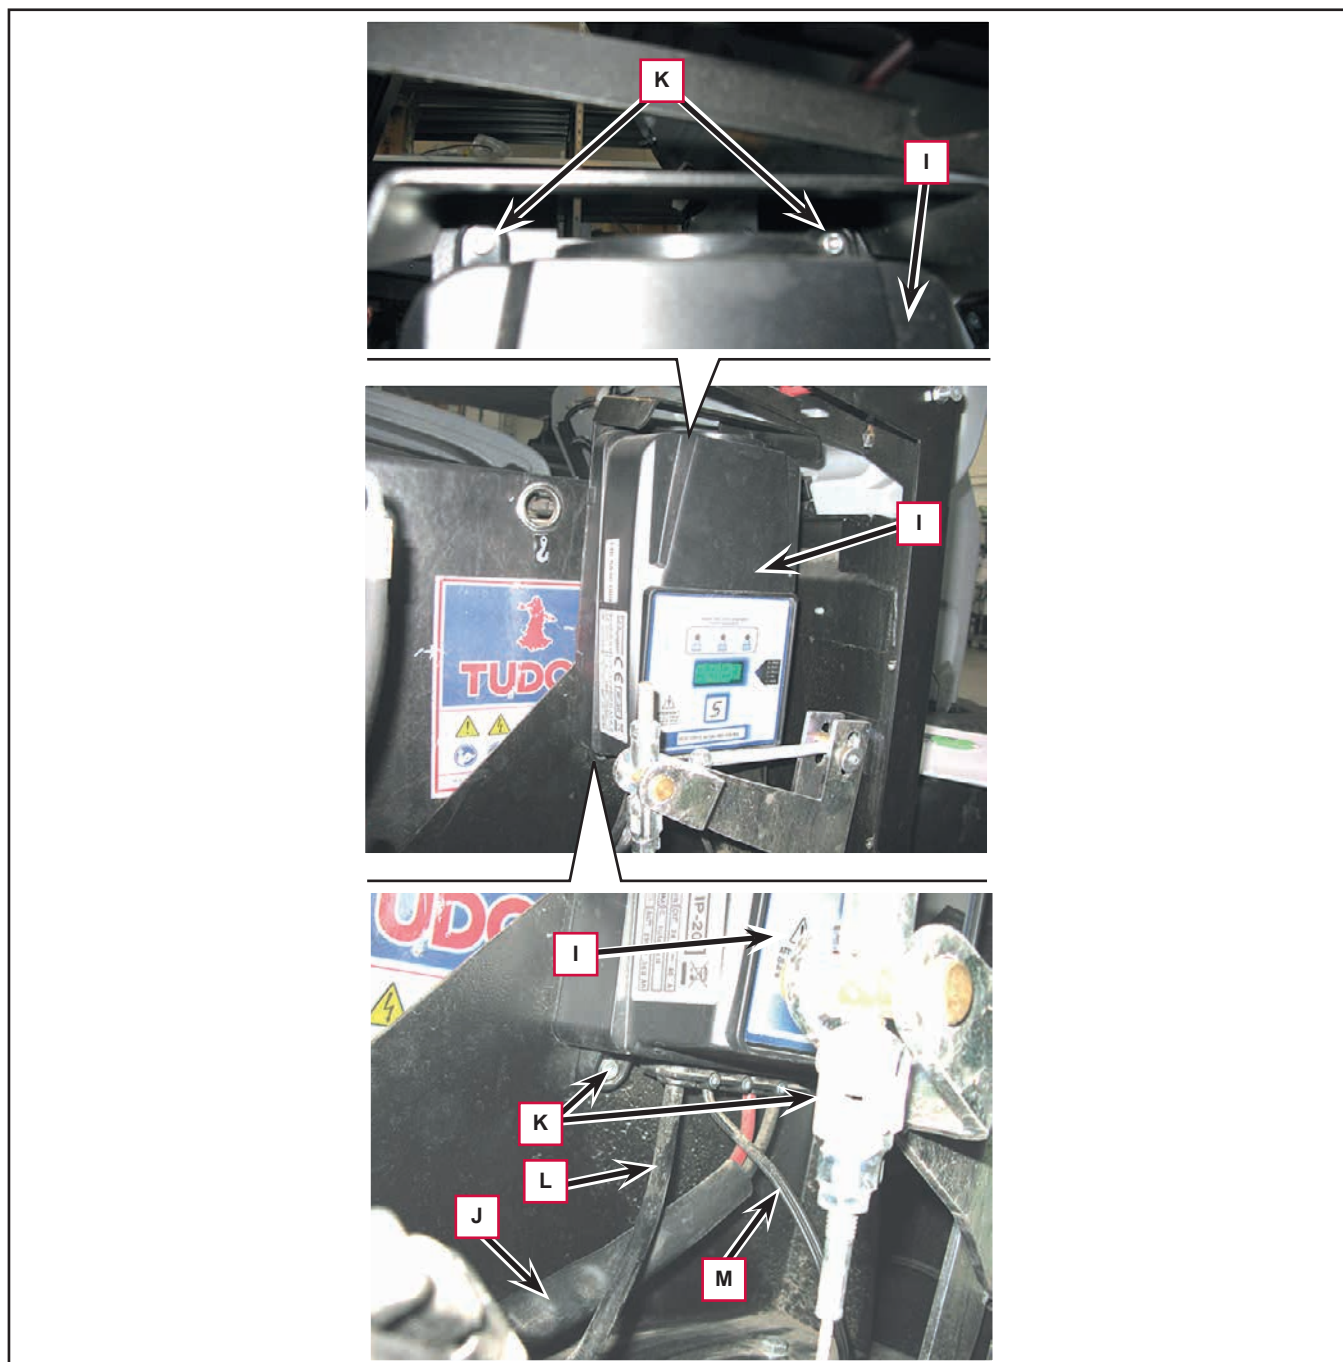

Figure 12
7. Working from underneath the battery charger (I, Figure 12), disconnect the electrical connection (J) of the connection cable to the Main Control Board.
8. Remove the four fastening screws (K) of the battery charger (I).
9. Remove the battery charger (I) with the electrical cables (L) connecting it to the batteries and (M) for connection to the mains.